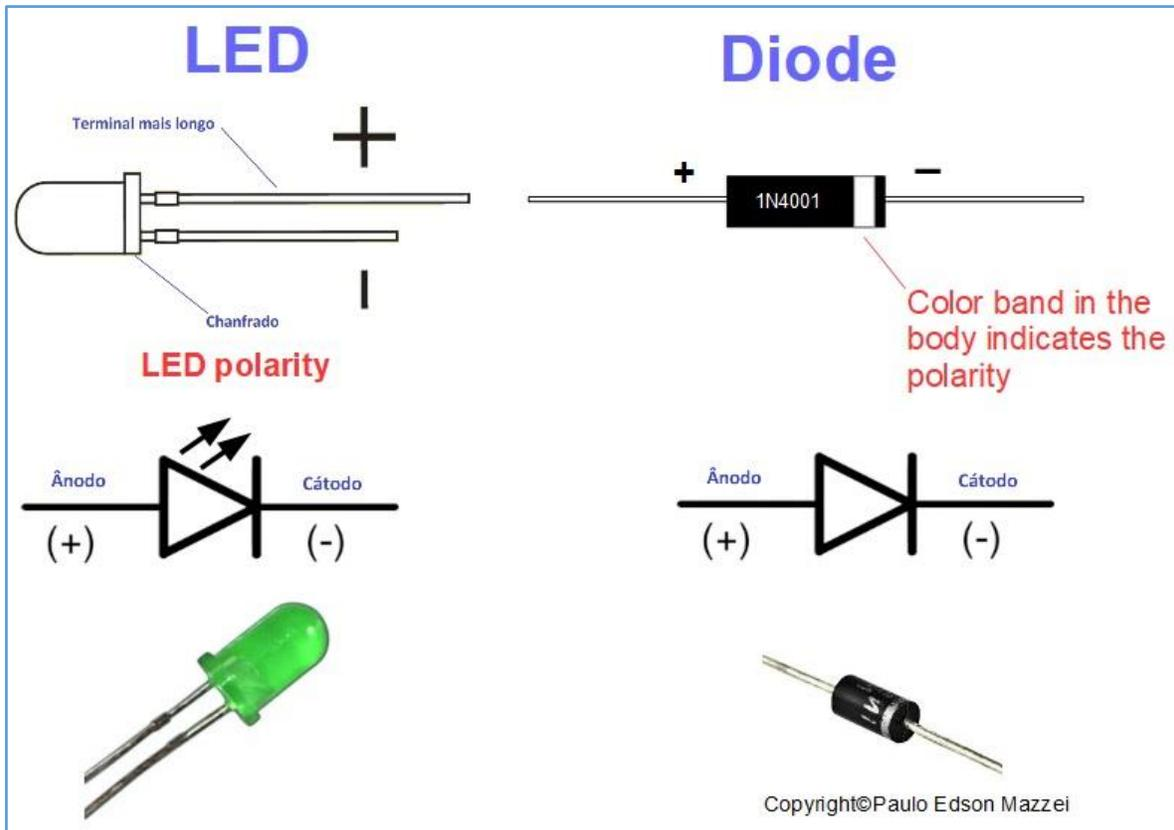

Figure 166 – LED and common diode polarity.
- One side of the body is chamfered, near one of the terminals, and indicates the **negative** pole or "**cathode**". See **figure 166**.